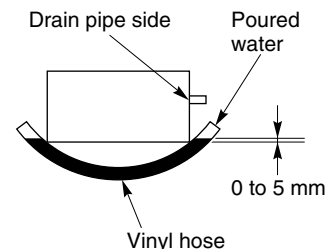

Fig. 3-9
- (5) The unit should be adjusted using water level or as shown in Fig. 3-9 so that the drain pipe side is slanted 5 mm lower than the opposite side.
- (6) After completing the adjustment of the clearance, fasten all upper and lower suspension nuts tightly.